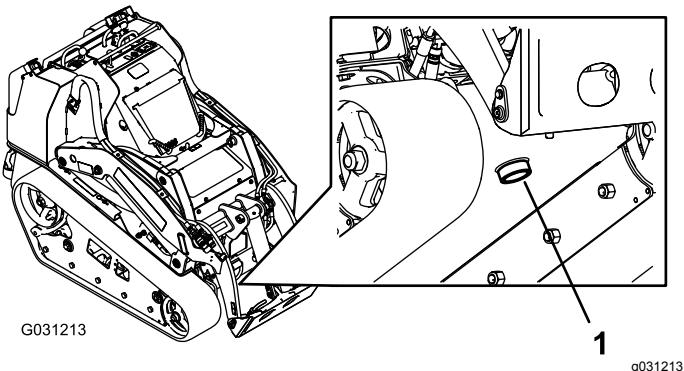

Figure 63
7. Place a large drain pan (capable of holding 57 or 15 US gallons) under the drain plug on the front of the traction unit (Figure 63).
8. Remove the drain plug and allow the oil to drain into the pan (Figure 63).